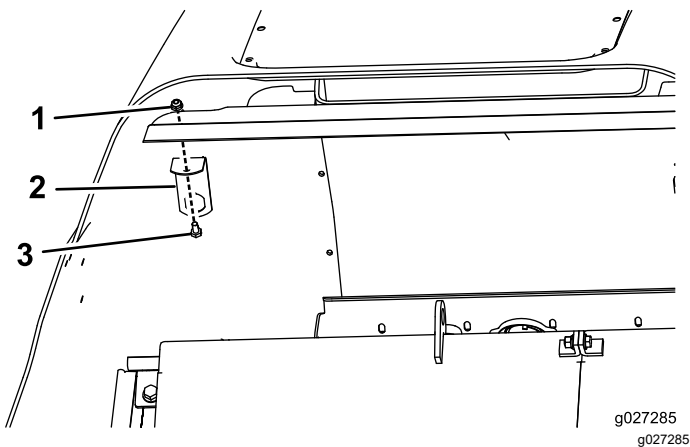

Figure 3
4. Install the latch support as shown in Figure 3.
9. Install the latch support to the frame (Figure 3).